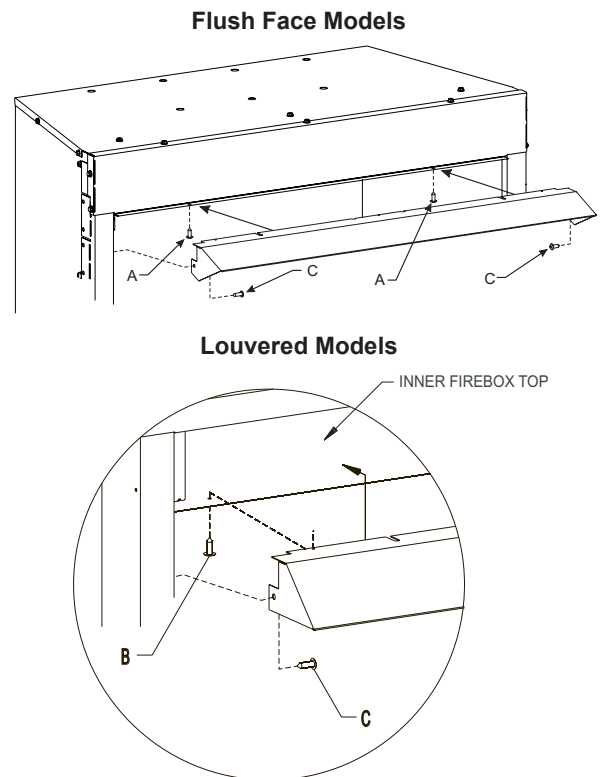

Figure 10
2. Place the top hood flange on top of the firebox, then install three screws through the firebox top from below and screw into the pilot holes in the hood flange (B).
3. Install one screw at each end of the hood as shown (C).
**CAUTION:** The hood must be installed prior to operation of appliance. See Figure 10.